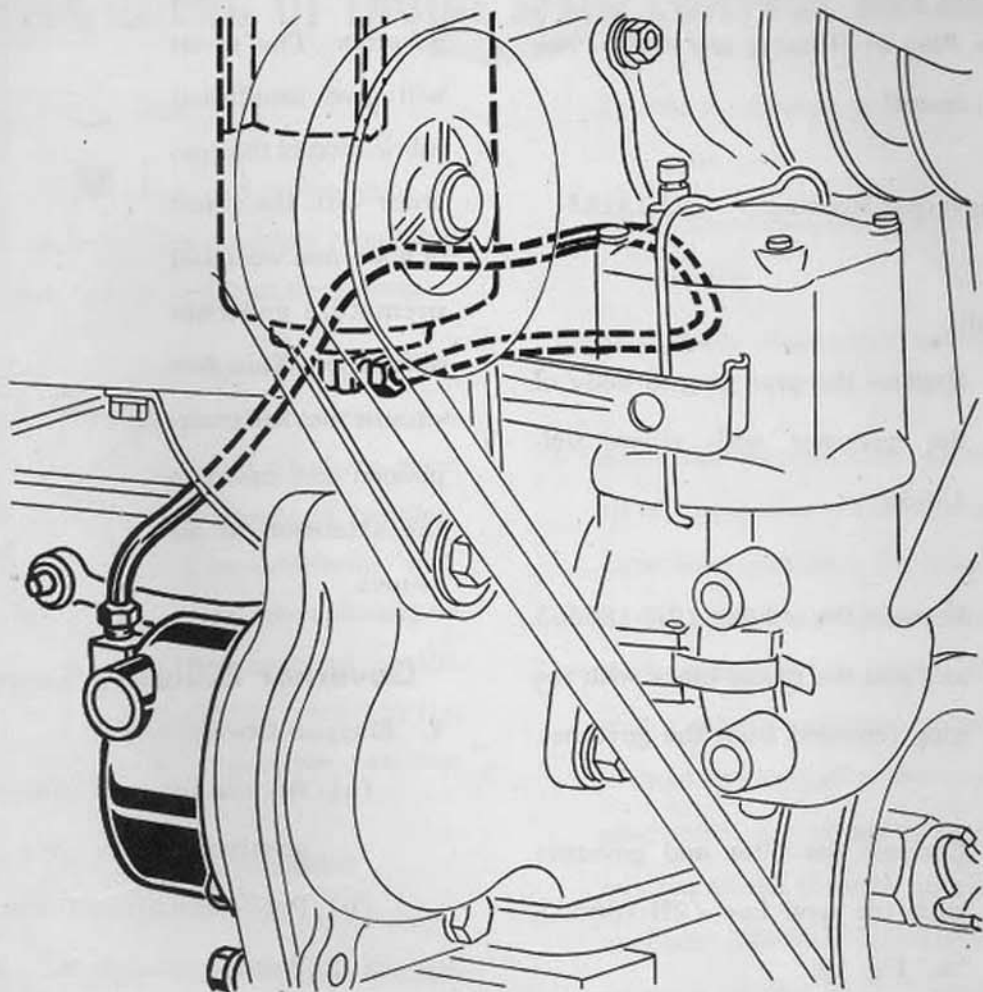

FIG. 12
- (a) Governor oil line installation. An oil line from the oil filter to the governor, Fig. 12, is standard on present production tractors to provide better gover-